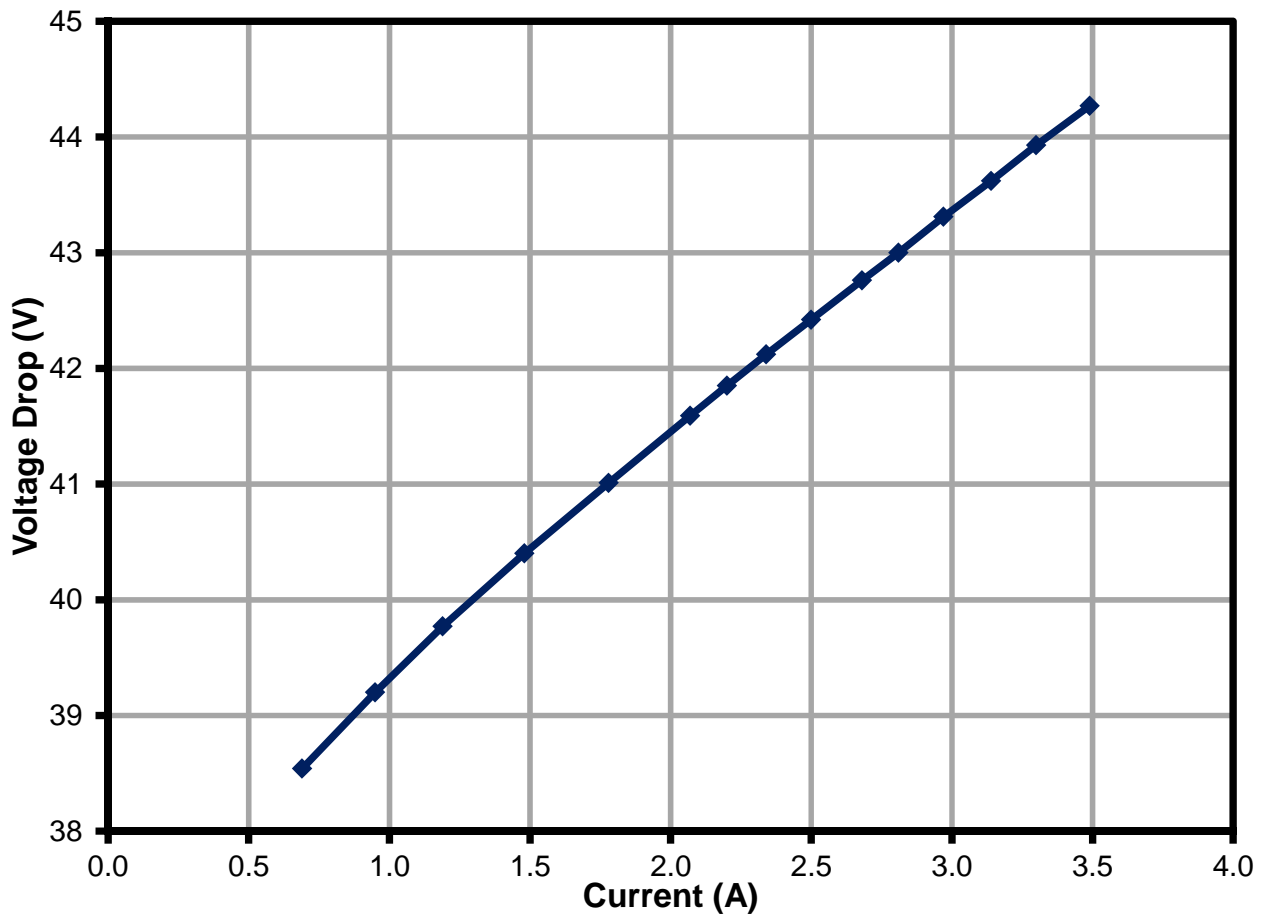
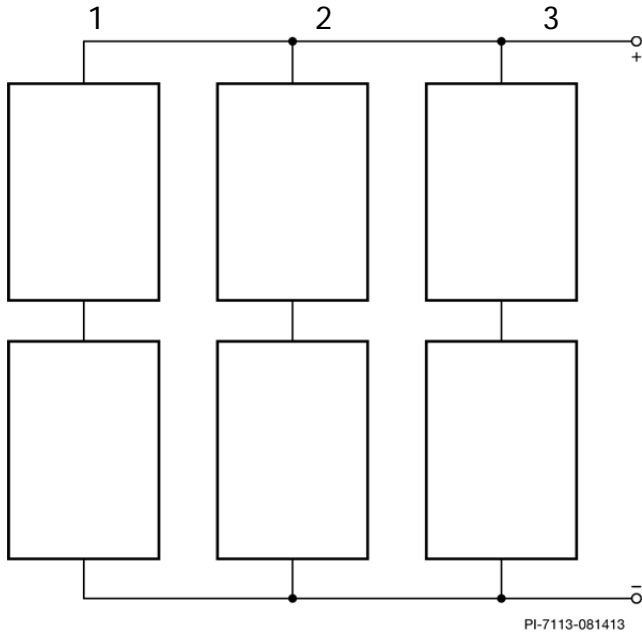
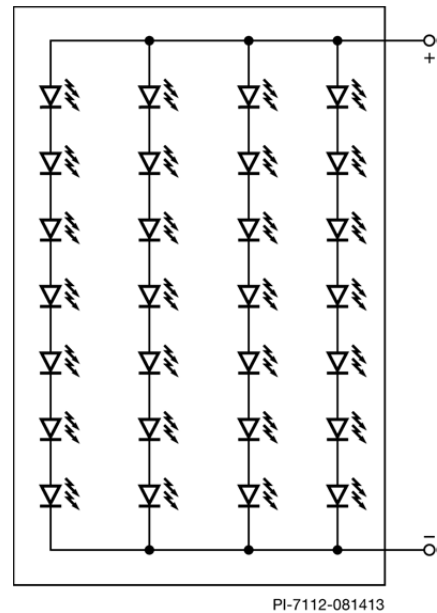

Figure 7 – Streetlight LED Array V-I Characteristic.
Figure 8 – LED Test Panel Layout.
Figure 9 – Array of LEDs in Each Test Panel.
A commercial 150 W LED streetlight was used to test the RD-382 power supply. The LED array consisted of (6) 7 X 4 panels, as 4 wide, 7 deep. For the purposes of testing, the six panels were connected in series-parallel, resulting in an LED array 12 wide, 14 deep (see Figures 8 and 9). The V-I characteristic of the LED panels connected in this manner is shown below in Figure 7.
Since this power supply has a constant current output tailored for a relatively fixed constant voltage load, the usual constant current electronic load cannot be used for testing. For bench testing at maximum power, a constant resistance load can be used, set such that the supply output is at maximum current and an output voltage of 43-44 V, as indicated by the V-I curve shown in Figure 7. Other testing, including dimming and gain-phase, will require the actual LED load or a constant voltage load that closely mimics its characteristics.
The streetlight LED as a load was both large and heavy. In order to facilitate EMI and surge testing, a constant voltage load was constructed to emulate the behavior of the LED array in a much smaller package. The circuit is shown in Figure 8. The load consists of paralleled power Darlington transistors Q1-5, each with an emitter resistor (R1-5) to facilitate current sharing. Base resistors R6-10 help prevent oscillation. A string of thirteen 3 mm blue LEDs (D1-13) are used as a voltage reference to mimic the characteristics of the LED panel. Resistor R11 is adjusted to vary the voltage at which the load turns on to match the characteristics of the LED panel. Resistors R12-14 add extra impedance in series with the load to approximate the characteristics of the LED panel. The completed array with heat sink is shown in Figure 9. A small fan was used to cool the heat sink when the load was operated for extended periods at full power. The V-I characteristics of the CV load are shown superimposed on those of the LED array in Figure 10. An electronic load with appropriate rating and a constant voltage option (with some series resistance) could also be used for testing, but this load has the advantage that no external AC power is needed.